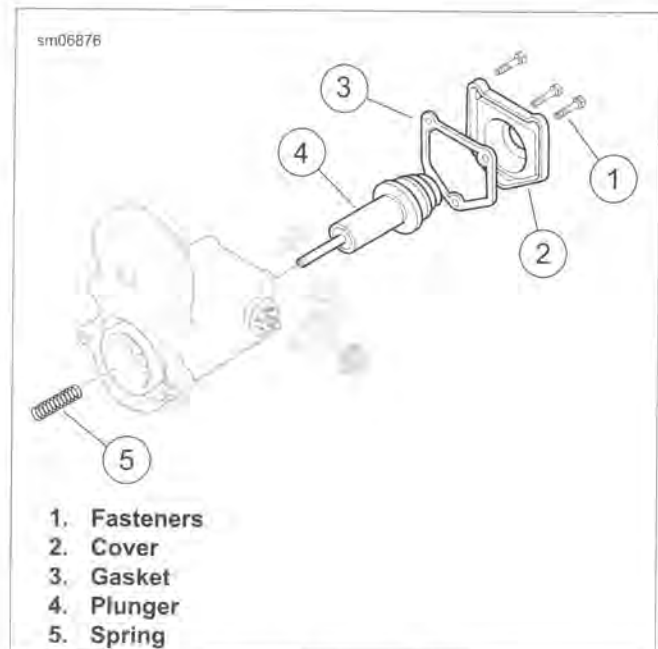

Figure 7-10. Solenoid Plunger
1. See Figure 7-10. Remove fasteners (1), cover (2) and gasket (3).
2. Remove the plunger (4) with spring (5).